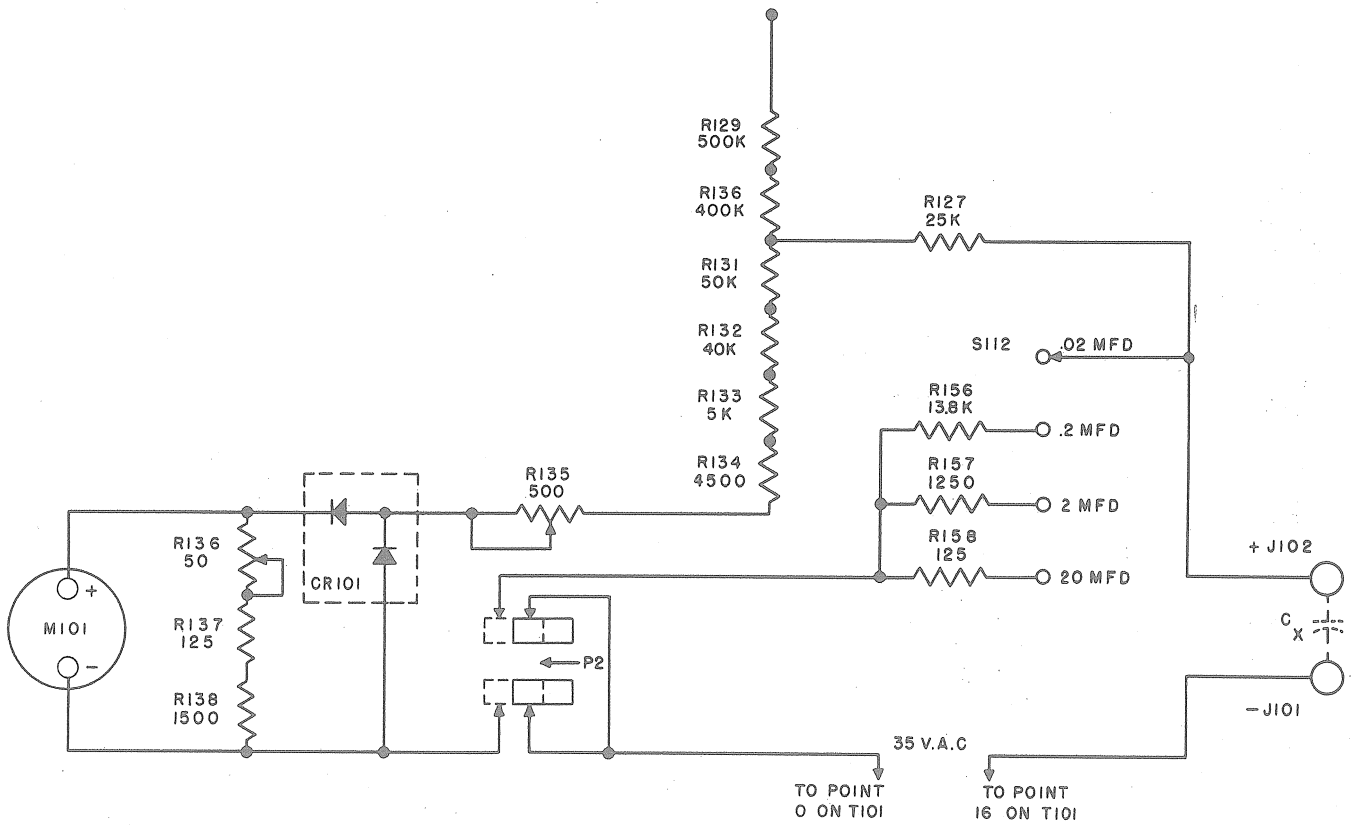

Figure 2-14.—Simplified Capacity Meter Circuit.
- (2) Adjustment of the RANGE selector switch applies the current to be measured to the proper tap on the series of resistors.
- e. CAPACITY (See Figure 2-14)
- (1) With the FUNCTION selector set at CAP. the test circuit illustrated by Figure 2-14 is established.
- (2) Adjustment of the RANGE switch S-112 permits selection of the four ranges of capacity.
- (3) A standard ac voltage is applied across the unknown capacity  $C_x$  through a circuit consisting of CR-101, R-127, R-131 through R-138 and M-101 which acts as an ac milliammeter. The three high capacity ranges are obtain by inserting one of three shunt resistors R-156, R-157 or R-158, selected by S-112, in parallel with the ac milliammeter circuit.
- (4) The current through the capacitor under test and the ac milliammeter is inversely proportional to the reactance of the capacitor and is measured by the meter in terms of capacity in microfarads based on a line frequency of 60 cycles.